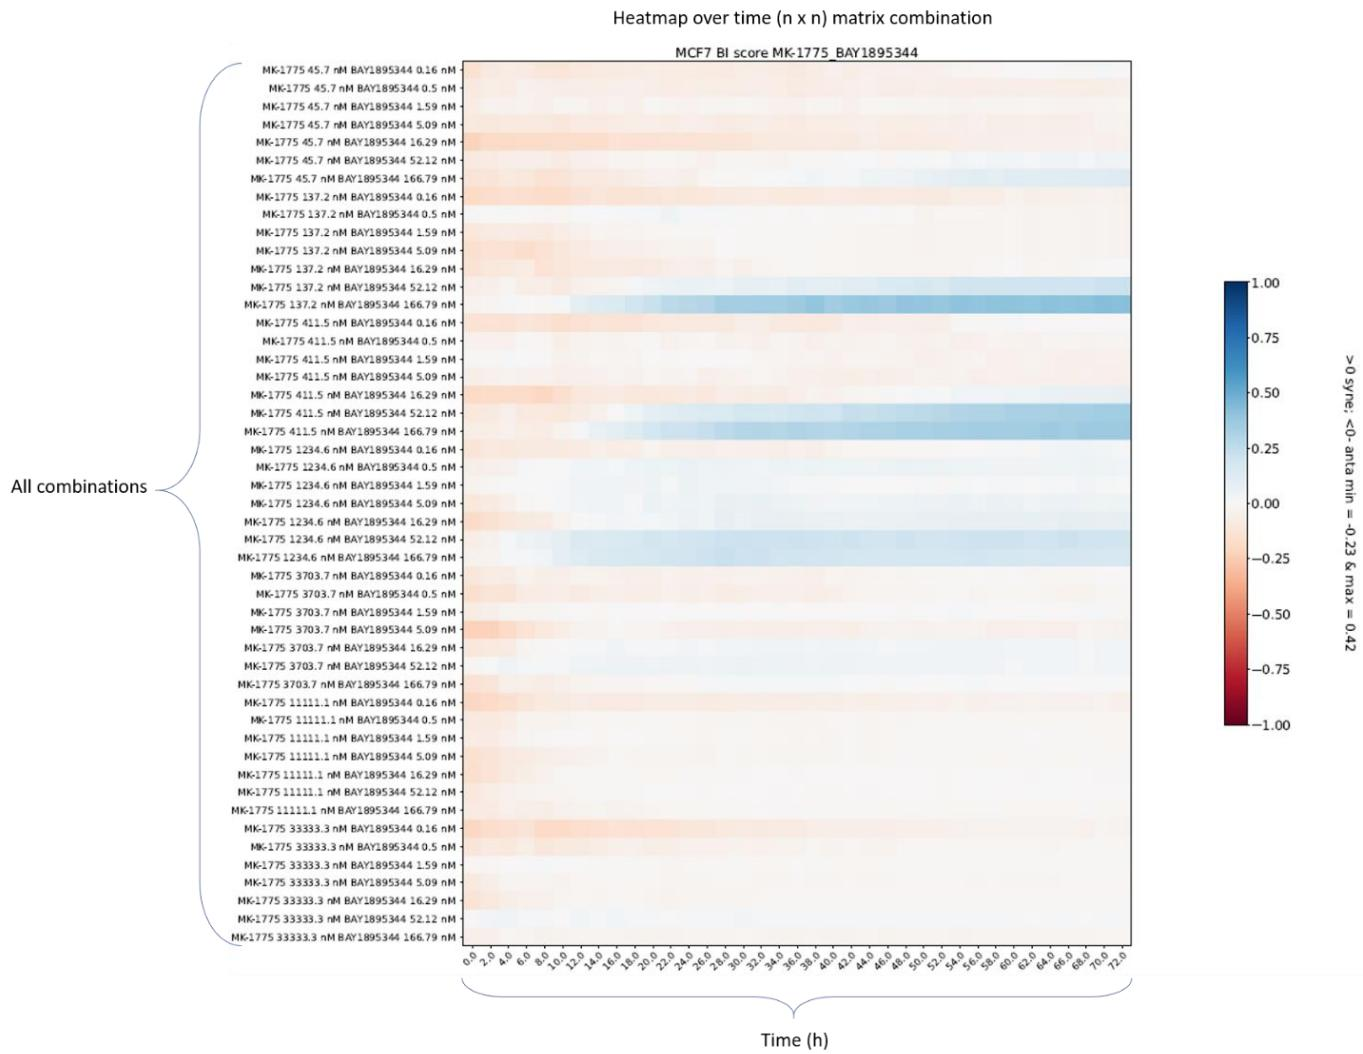

Figure 33: Heatmap over time for (n x n) matrix combination.
- ( $n \times n$ ) matrix combination, see Figure 33.